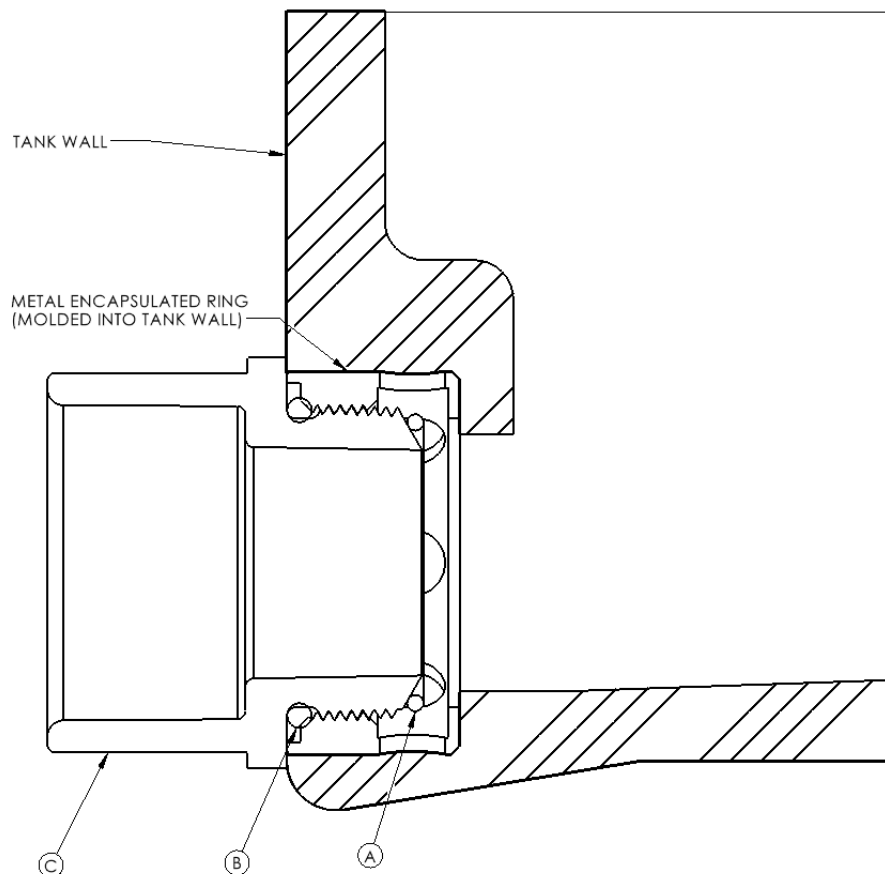

Figure 6.6
6.6.1 The SUMO fitting shall be constructed with 1 ea. smaller o-ring (A), 1 ea. larger o-ring (B), and 1 ea. SUMO adapter (C). Refer to Figure 6.6 for part identification. **NOTE - The tank is shipped with a shipping stabilizer installed in the SUMO outlet. NEVER move the container without the shipping stabilizer installed.**